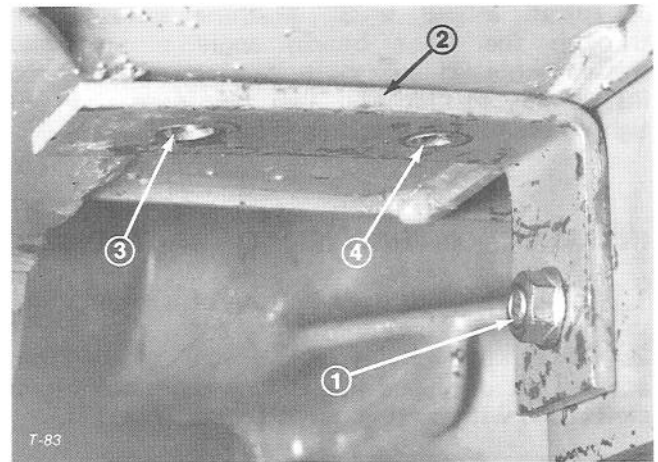

Figure 10
5. Insert 5/16 x 3/4" carriage bolt through slotted hole in hinge plate from inside toward outside, mount angle support to bolt and loosely install flange nut (Fig. 10).
6. Slide angle support up against bottom of floor plate and secure flange nut (Fig. 10).
7. Use the two upper holes in the angle support as a guide. Center punch and drill a 13/32" hole in the floor plate through the outside hole in the support and an 11/32" hole through the inside support hole (Fig. 10).